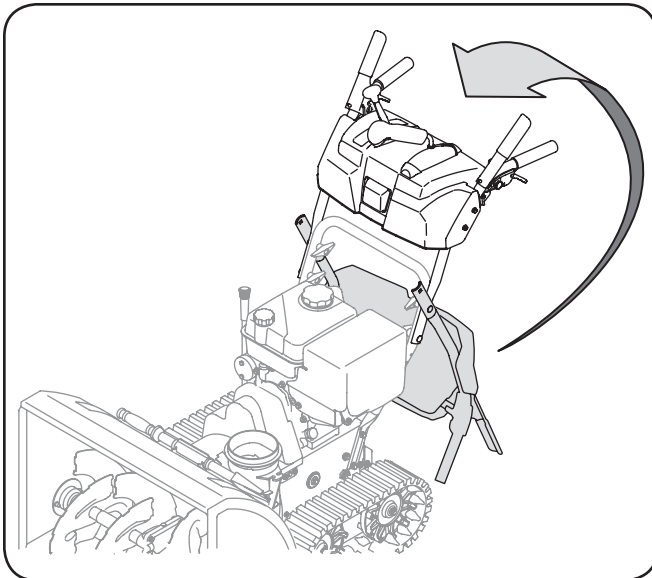

Figure 3-1
2. Remove the lower plastic wing nut and carriage bolt from each side of the upper handle; then raise the upper handle assembly until it snaps over the lower handle. Make certain the upper ends of each cable are seated properly in the proper brackets. See Figure 3-1.